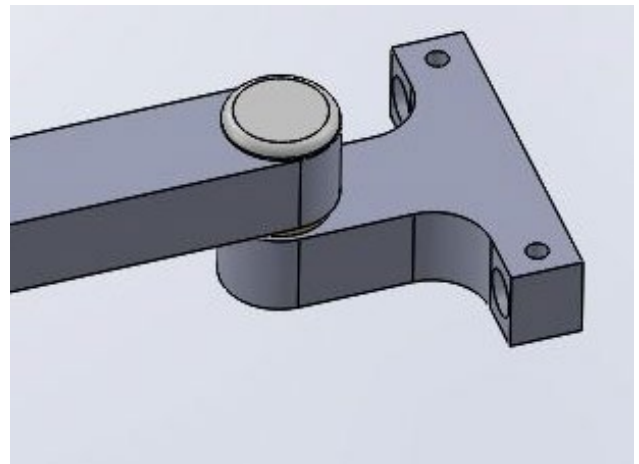

Fig. 3
- 6 Insert the pin from the arm into the mounting block. (Fig. 3)